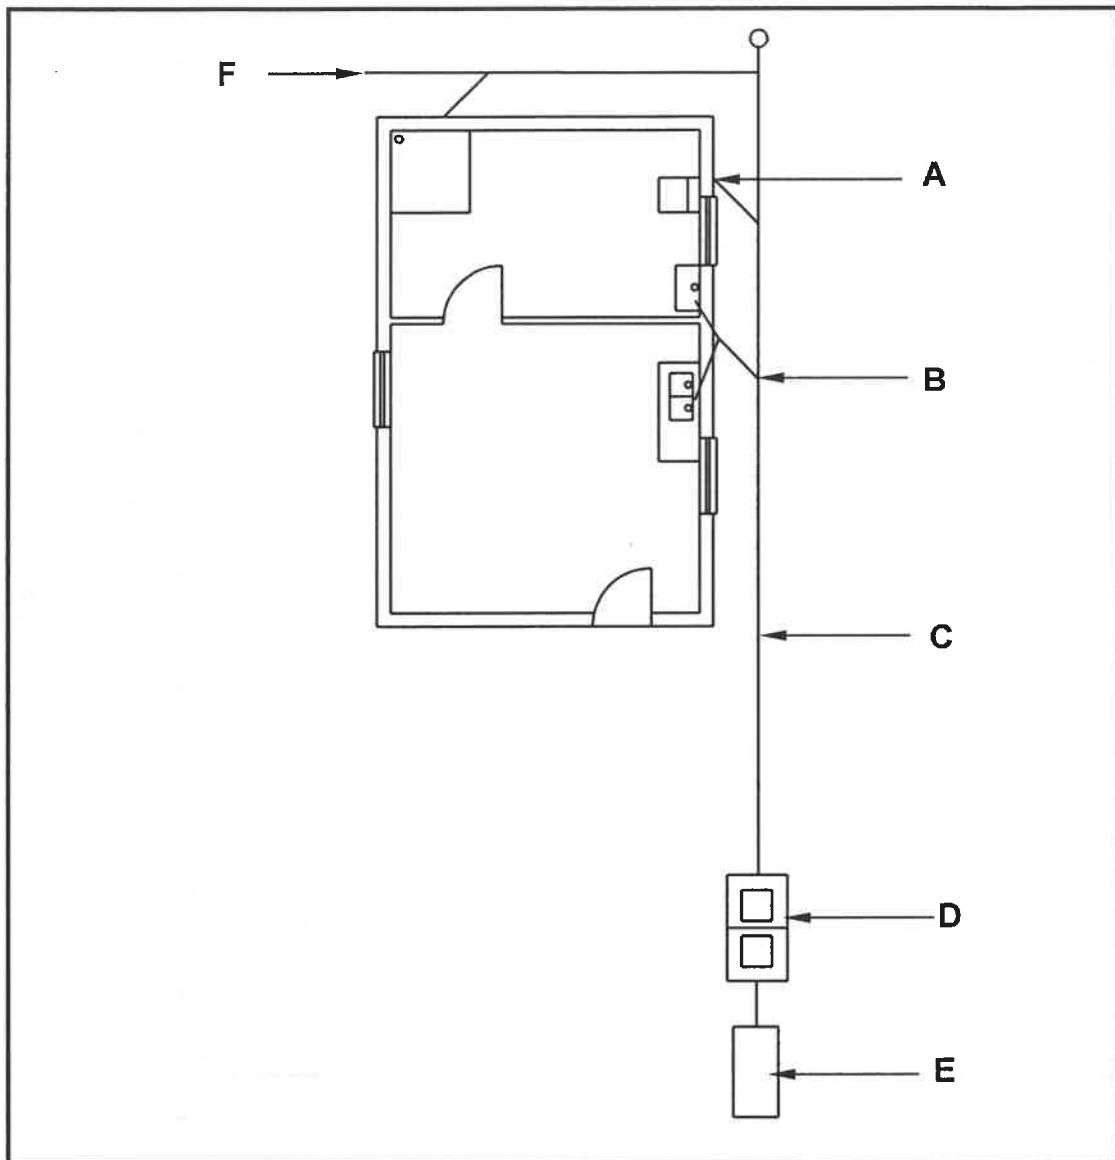

FIGURE 6.8
6.8 FIGURE 6.8 below shows the incomplete drainage plan of a building.